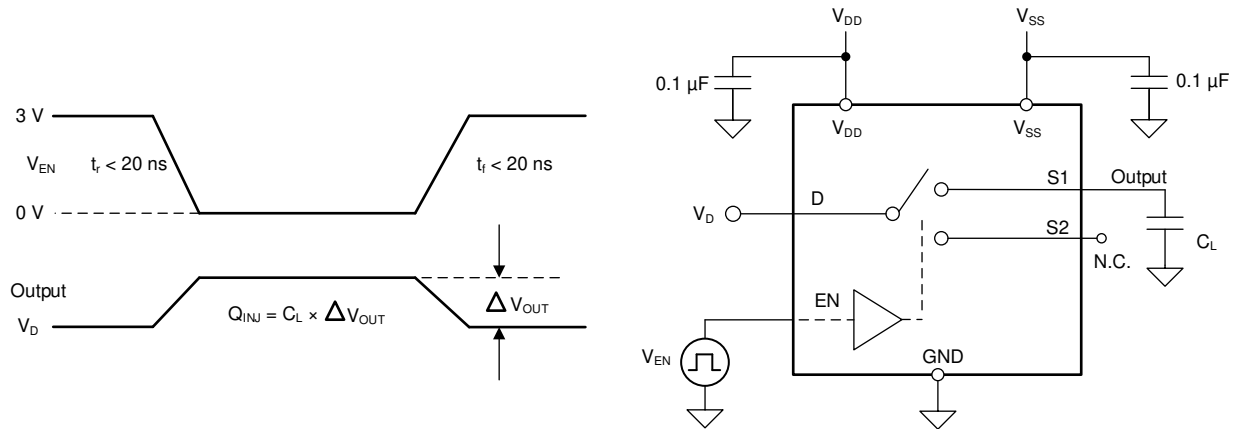

图 7-9. Charge-Injection Measurement Setup
The TMUX6219 has a transmission-gate topology. Any mismatch in capacitance between the NMOS and PMOS transistors results in a charge injected into the drain or source during the falling or rising edge of the gate signal. The amount of charge injected into the source or drain of the device is known as charge injection, and is denoted by the symbol Q_C . 图 7-9 shows the setup used to measure charge injection from source (Sx) to drain (D).